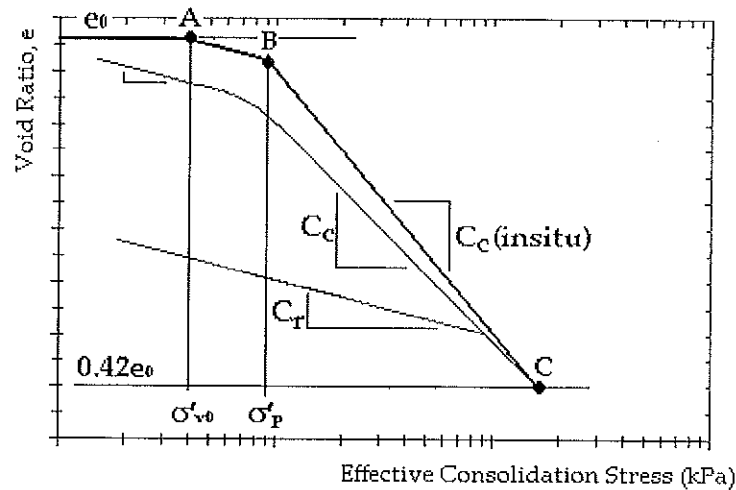

Figure B6B
- B. Figure B6B shows the idealized in-situ compression curve generated from the laboratory compression curve constructed during the 1-dimensional consolidation test. Explain how you would obtain the x and y coordinates of points A, B and C. (4 marks)